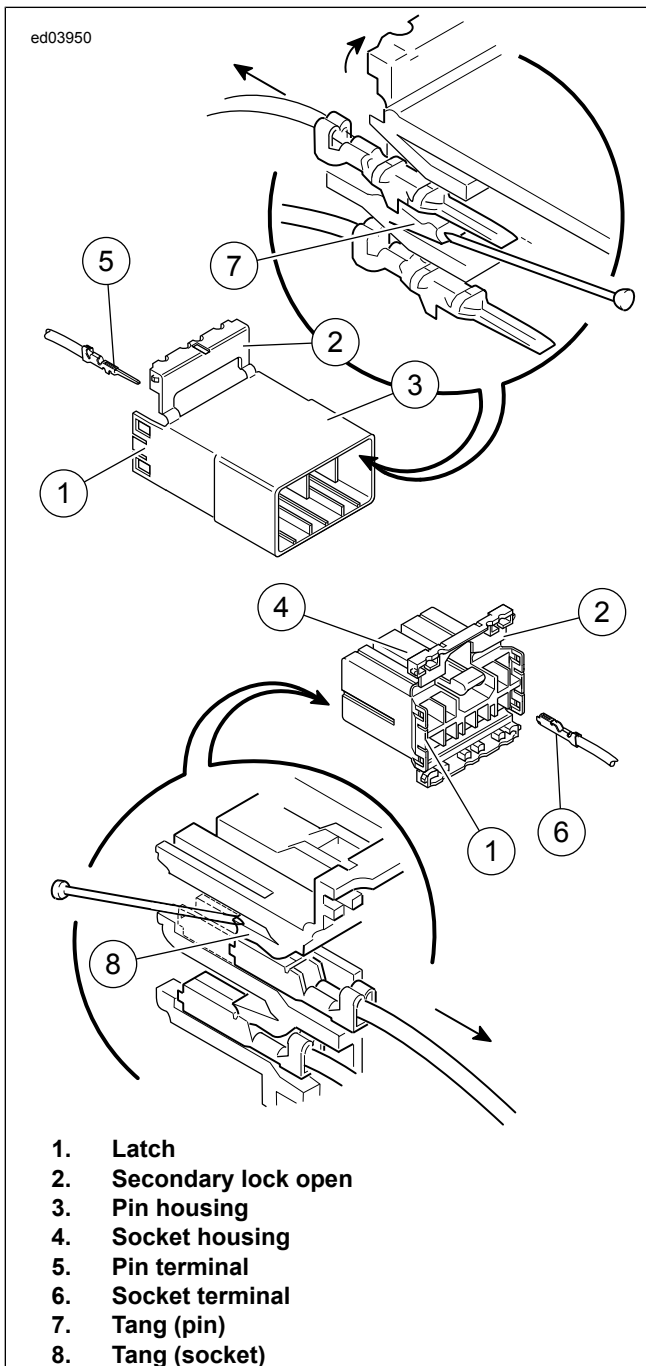

Figure B-52. Tyco 070 Multilock Unsealed Connector:
1. See **Figure B-52**. Bend back the latch to free one end of secondary lock then repeat on the opposite end. Hinge the secondary lock outward.